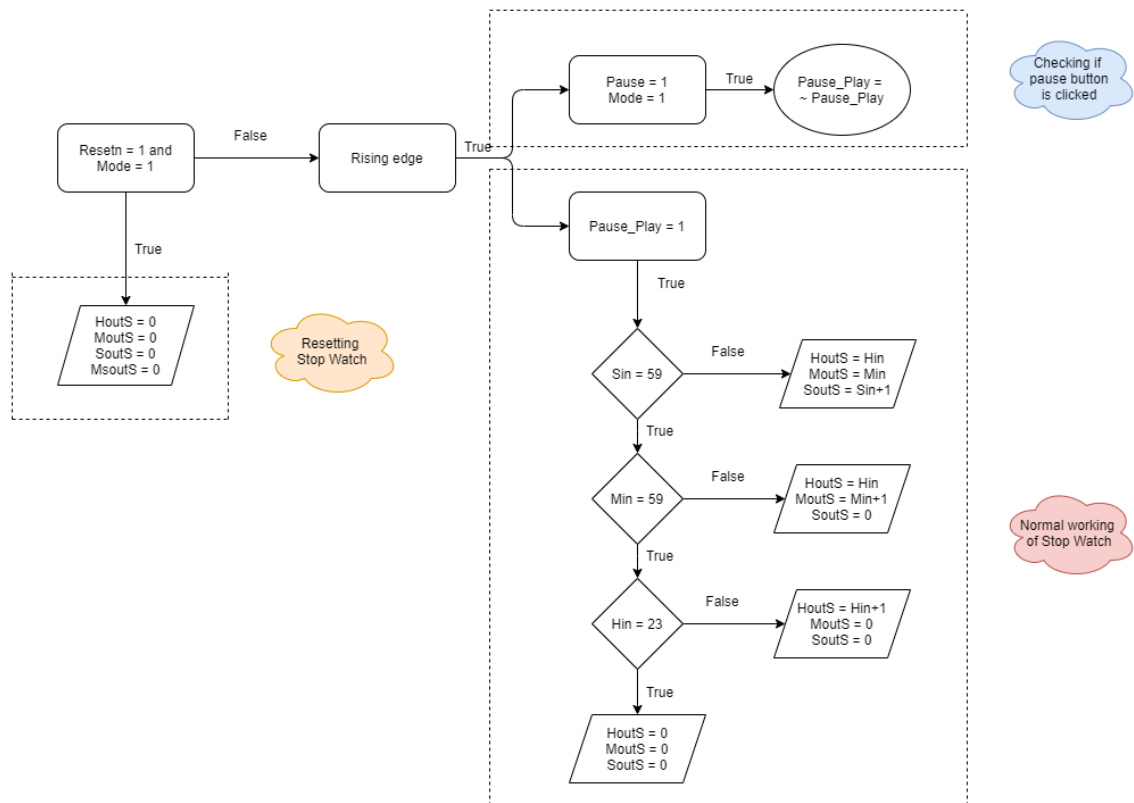

Figure 3: Flow Chart of Stopwatch
- The normal working of the stopwatch is shown in the Fig 3.